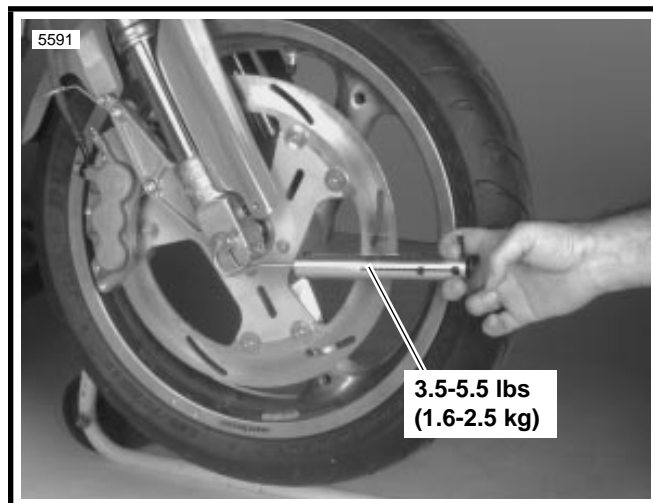
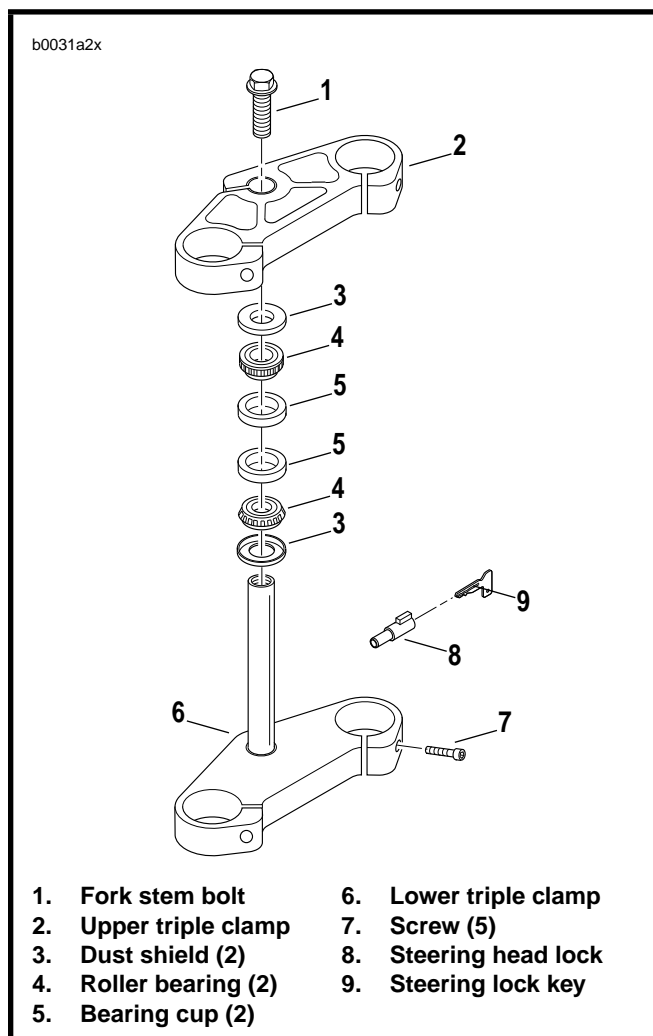

Figure 1-32. Checking Steering Head Bearings
Figure 1-33. Steering Head Assembly
1. See Figure 1-32. Lift motorcycle using FRONT WHEEL SUPPORT STAND \(Part No. B-41395\) and S1 LIFT ADAPTER \(Part No. B-41686\) so front wheel is off the ground.
3. See Figure 1-32. Hook spring scale into front axle hole. Pull front wheel to center position. It should take 3.5-5.5 lbs (1.6-2.5 kg) to pull front wheel to center.
4. Loosen pinch screws (7) on upper and lower triple clamps.
5. See Figure 1-33. Tighten or loosen fork stem bolt (1) to set proper tension.
7. Tighten triple clamp pinch screws (7) to 18-20 ft-lbs (24.4-27.1 Nm).